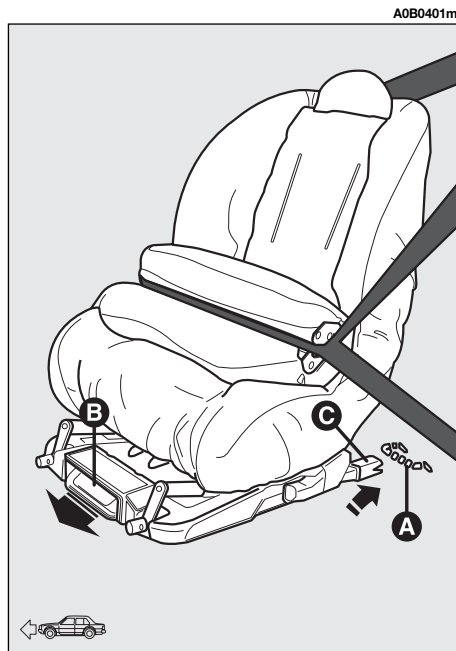

fig. 58
- check whether the release lever (**B**-fig. 58) is at rest position (inward)